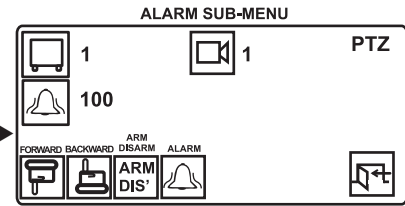
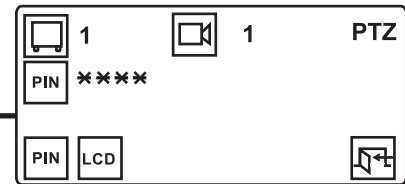
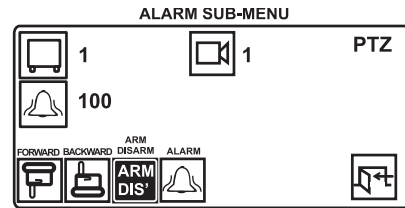

Figure 3-21
Figure 3-22
Figure 3-23
- The ALARM SUB-MENU appears. Activate the indicated icon in Figure 3-21 to ARM the alarm. If you have not previously entered a PIN number for the DEF menu, the display in Figure 3-22 appears. Enter the default PIN of **1234**. The display will revert back to Figure 3-21. Press the blue button to activate the ARM function. The ARM DIS' icon turns opaque as in Figure 3-23. This completes ARMing the alarm for Physical Alarm 1.
Additional alarms may be armed from this menu by entering the associated logical number in the keypad and pressing the ALARM (bell) icon. This takes you back to Figure 3-21, which now displays the new number in the menu; the ARM DIS' icon is clear and can now be activated to ARM the next alarm. The result is again Figure 3-23, except that now, the new numbers for the ARMed alarm appear.